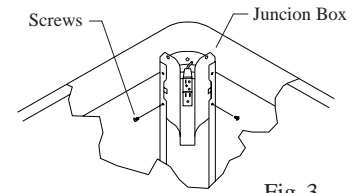

Fig. 3
- **Remove junction box.** The electrical junction box is located in the upper inside corner of the cooler cabinet. Remove the two screws and slide cover down for access to plug wiring (Fig. 3).